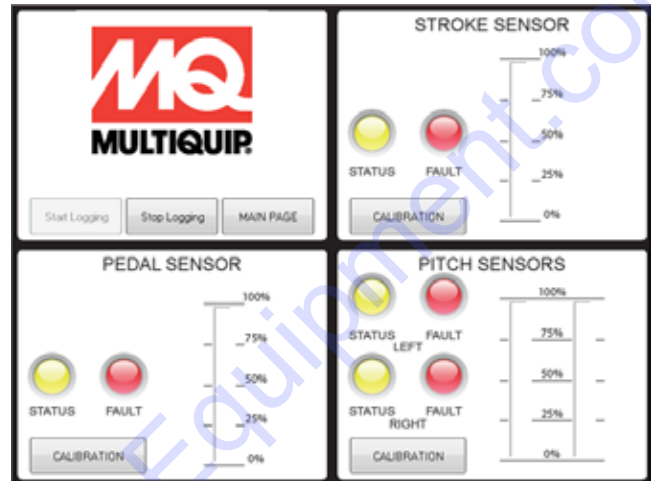

Figure 40. Pitch Sensor Calibration
3. Click "Calibration" button in Pitch Sensors section (Figure 40).